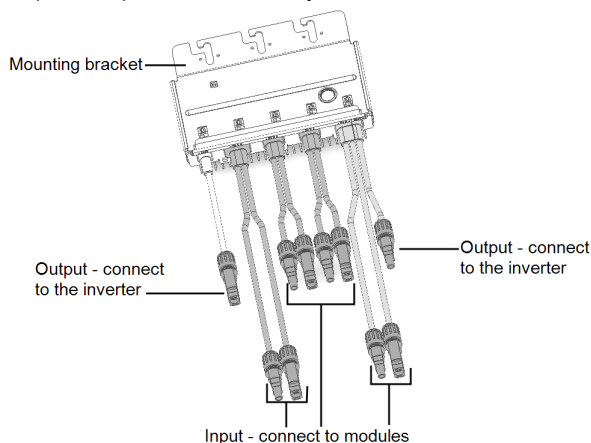

Figure 3: Power optimizer connectors
1. Determine the power optimizer mounting location and use the power optimizer mounting bracket to attach the power optimizer to the support structure (see *Figure 3*). Use at least two bracket holes.